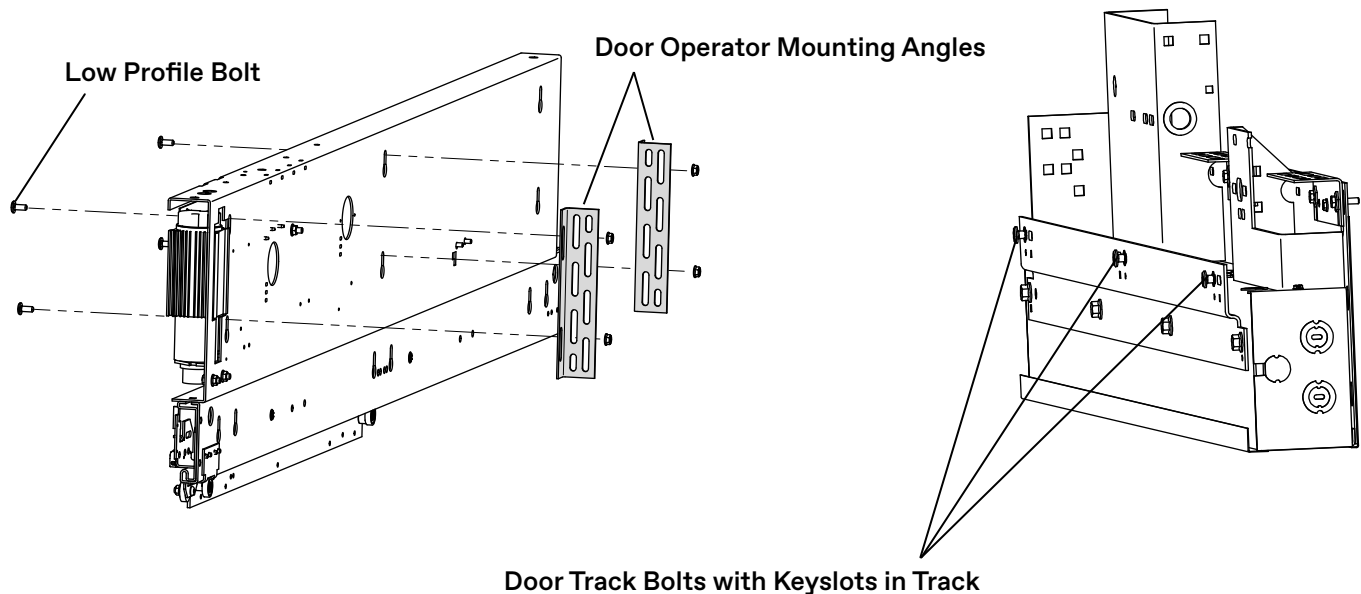
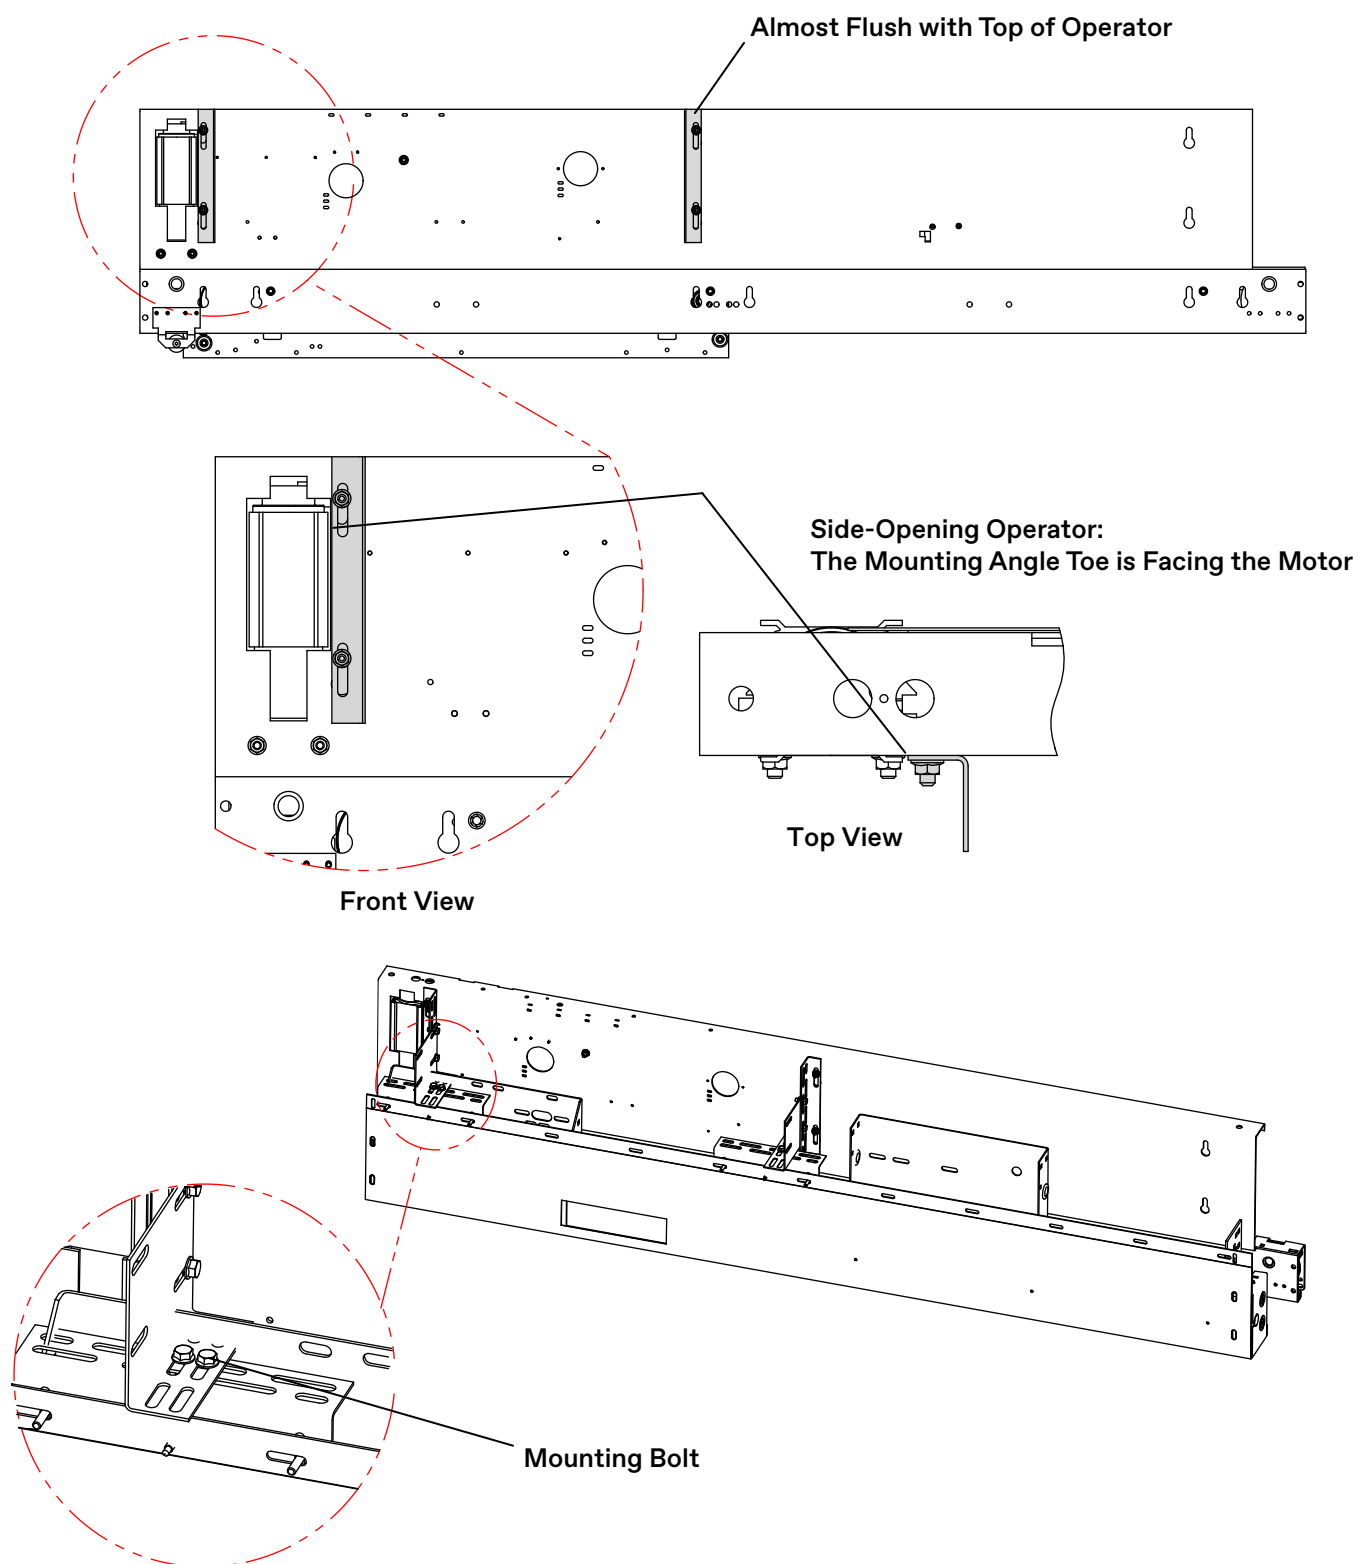

Figure 6 - Door Operator Machine Installation (1 of 2)
Figure 7 - Door Operator Machine Installation (2 of 2)
10. Install the door operator to the adapter angle. See Figure 6 below and Figure 7 on page 13.